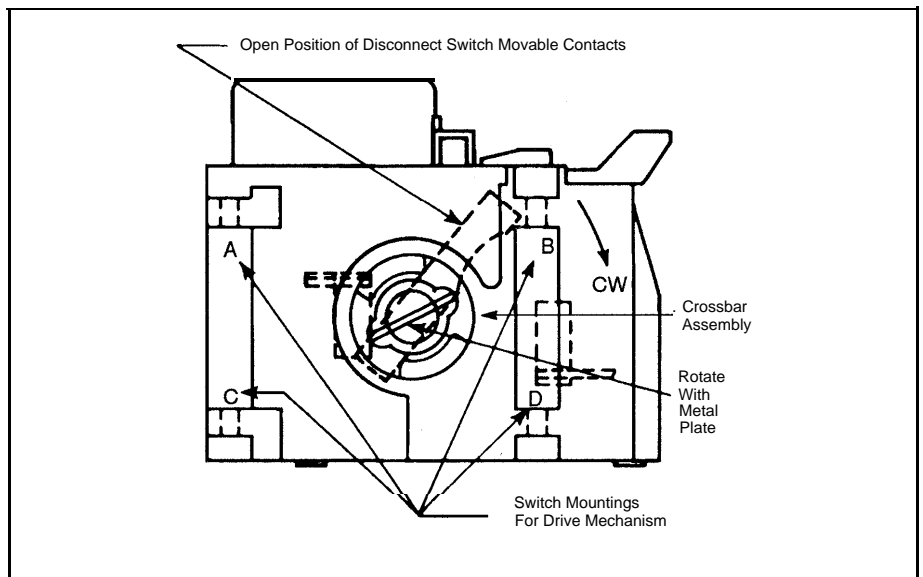

Figure 9
2. Insert the rectangular tool (metal plate) into the crossbar end slot on the right hand side. See Figure 9.
6. Insert the drive mechanism ears between switch mountings A, B, C, D as shown in Figure 9. The driveplate assembly should engage the openings in the crossbar assembly.